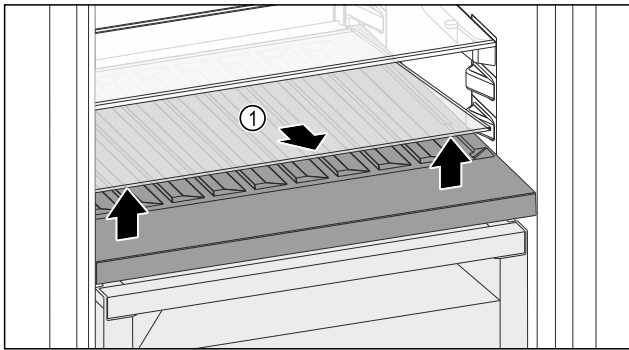

Fig. 110
- ▶ Lift the glass shelf Fig. 110 (1) at the front and remove.
- ▶ Store the glass shelf Fig. 110 (1) in a safe place outside the appliance.